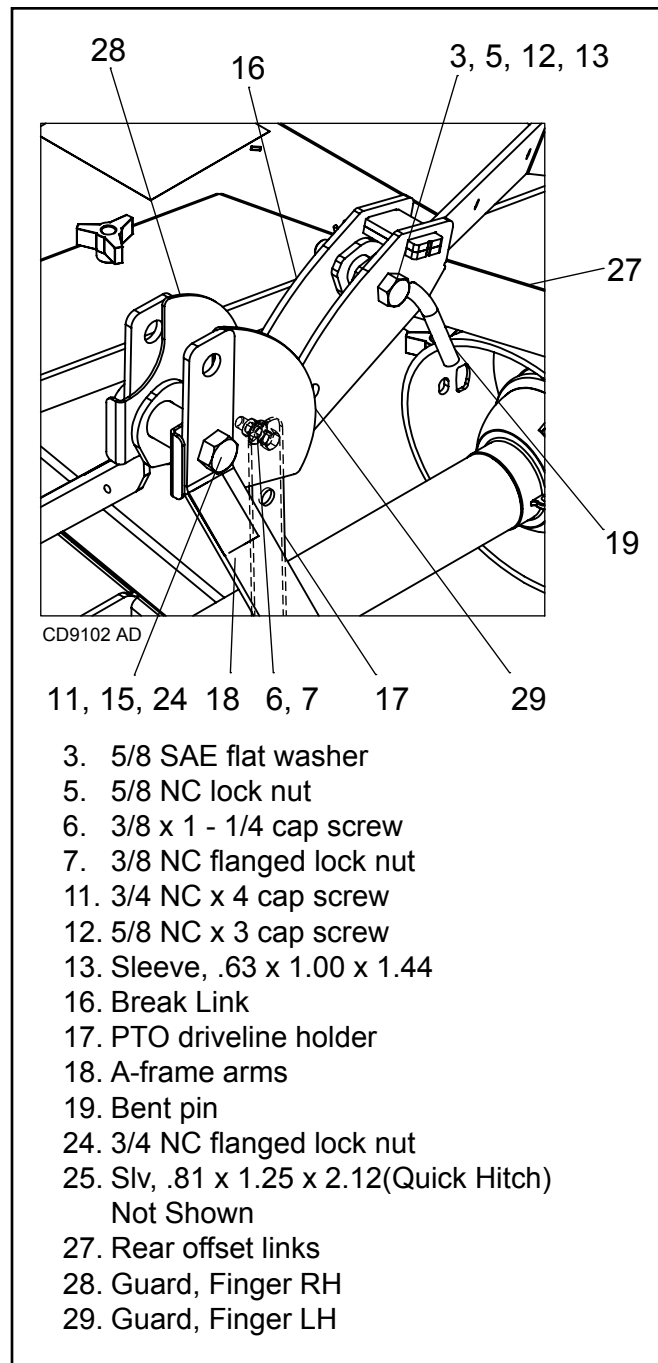

Figure 33. Break Link Installed
4. Install sleeve (13) through hole in pointed ends of offset links. Place offset links inside break link with sleeve. Connect rear of break link (16) to offset links (27) with 5/8 cap screw (12), flat washer 3, and 5/8 lock nut (5). Tighten hardware then back cap screw off one quarter turn. Break link should pivot freely on rear offset links. See Figure 33.
5. Install PTO driveline holder (17) to left side of break link (16), facing out, using 3/8 cap screw (6) and 3/8 flanged lock nut (7). Tighten nut until it contacts inside of break link, then back off 1/2 turn so drive holder swings freely. Let drive holder (17) hang to receive driveline. Install 1/2" bent pin (19) through holes in break link (16) and rear offset links (27) and retain with hairpin. This will prevent hitch from accidentally collapsing if pressure is applied to a-frame arms upon final assembly. See Figure 33.
6. Install break link (16) to a-frame arms (18) in the following order, 3/4 cap screw (11), left hand a-frame arm (18), left hand - 2 bend finger guard (29), break link (16), bushing (15) inside break link, right hand - 1 bend, finger guard (28), right hand a-frame arm (18), and 3/4 flanged lock nut (24). Tighten hardware then back off until break link relaxes to allow quick hitch hook to fit inside. Break link should pivot freely. See Figure 33.
7. Install manual tube (20) on left side lift link using 5/16 carriage bolts (8) and 5/16 whiz nuts (23).